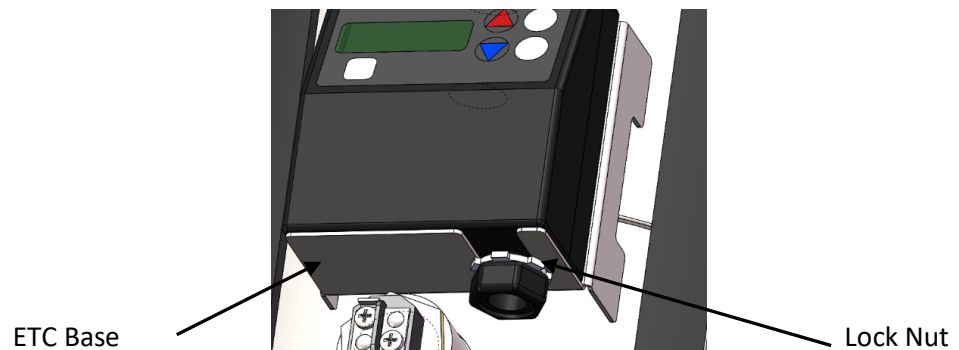

Figure 14 – Electronic Temperature Controller
4. Loosen lock nut from the base of the ETC and slide the controller off the base, See Figure 14 below.